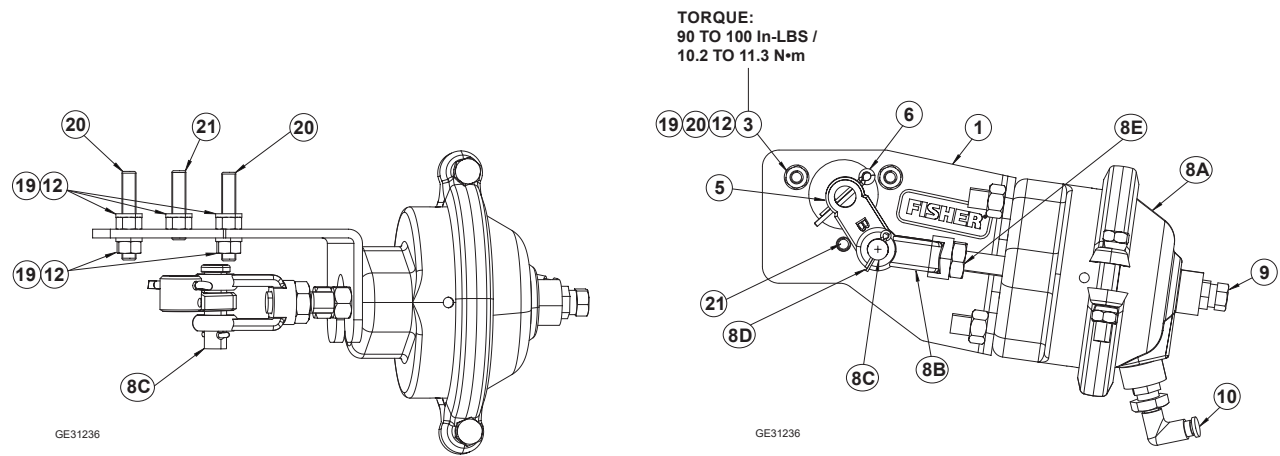

Figure 6. Type P639A for Types C407, C471 and C477 (2 and 3 NPT) Internal Valves
design using keys 12, 19 and 21, as shown in Figure 6 skip to Hardware section. All keys are referenced in Figure 6.
Install new stud-mounted hardware—Position the lever (key 5) with Side B facing away from the bracket. Insert the clevis pin (key 8C) through the clevis (key 8B) and the lever and secure with the small cotter pin (key 8D). Remove the three cap screws holding the gland housing to the internal valve body and discard them. Install the provided long studs (key 20) in the top-most hole locations and the short stud (key 21) in the bottom-most “6 o’clock” location. Secure the gland to the body with the first set of washers (key 12) and nuts (key 19). Mount the actuator bracket (key 1) as shown in Figure 6 and secure using the second set of washers (key 12) and nuts (key 19) supplied with this unit. Fit the operating lever on the internal valve shaft as the bracket is moved into place.
Type P639A with Stud-Type Hardware—A Type P639A Actuator can be installed on a valve equipped with Stud-Type hardware without removing downstream pressure from the piping system. First, position the lever (key 5) with Side B facing outwards, away from the bracket. Insert the clevis pin (key 8C) through the clevis (key 8B) and the lever and secure with the small cotter pin (key 8D). Remove the protective caps from the studs, exposing the threads. Fit the operating lever on the internal valve shaft as the bracket is moved into place. Mount the actuator bracket (key 1) as shown in Figure 6, securing the bracket to the two long studs (key 20) with the two nuts (key 19) and washers (key 12) supplied with the unit.
Using existing capscrews—Position the lever (key 5) with Side A facing away from the bracket. Insert the clevis pin (key 8C) through the clevis (key 8B) and the lever and secure with the small cotter pin (key 8D). Remove the three cap screws (key 3) holding the gland housing to the internal valve body and mount the actuator bracket (key 1) as shown in Figure 6 and secure using the same three cap screws. Fit the operating lever on the internal valve shaft as the bracket is moved into place.